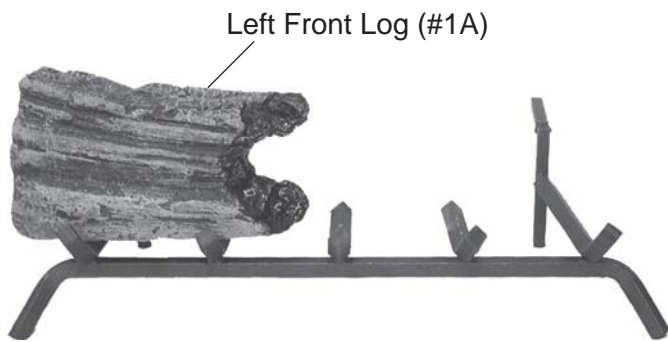

Figure 102 - Placing Left Front Log #1A on grate
2. Place Left Front Log #1A on front left of grate. *See Figure 102.*